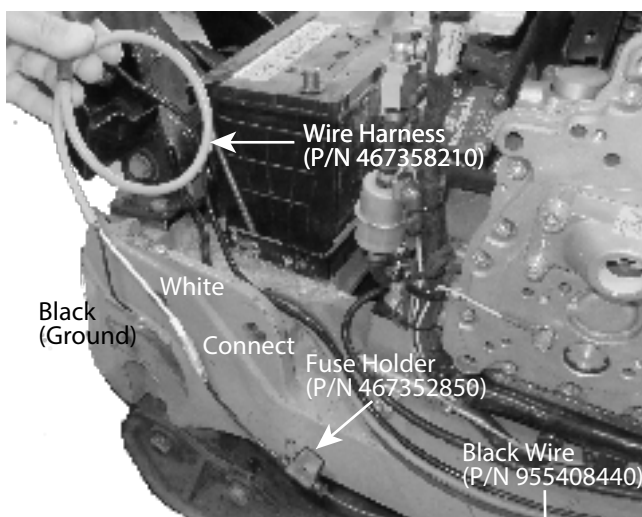

Figure 42. Wiring Connections
8. Connect the female end of black wire (P/N 955408440) to the male end of fuse holder (P/N 467352850). Then, connect the female end of fuse holder to the male end of white wire of wire harness (P/N 467358210). See Figure 42.